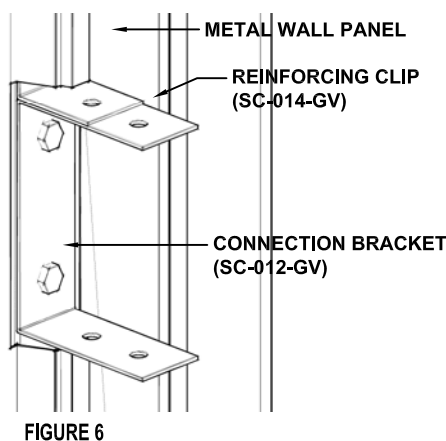

FIGURE 6
2. **Figure 6** - Use your selected holes in the Vertical Channel to drill pilot holes through your metal wall panel. If the pilot hole lands on or near a panel rib, cut a (+/-) 2" x 6" hole to allow the bracket to penetrate through the panel as shown **(Figure 6)**. **ALWAYS INSTALL THE TOP REINFORCING CLIP (SC-014-GV).**